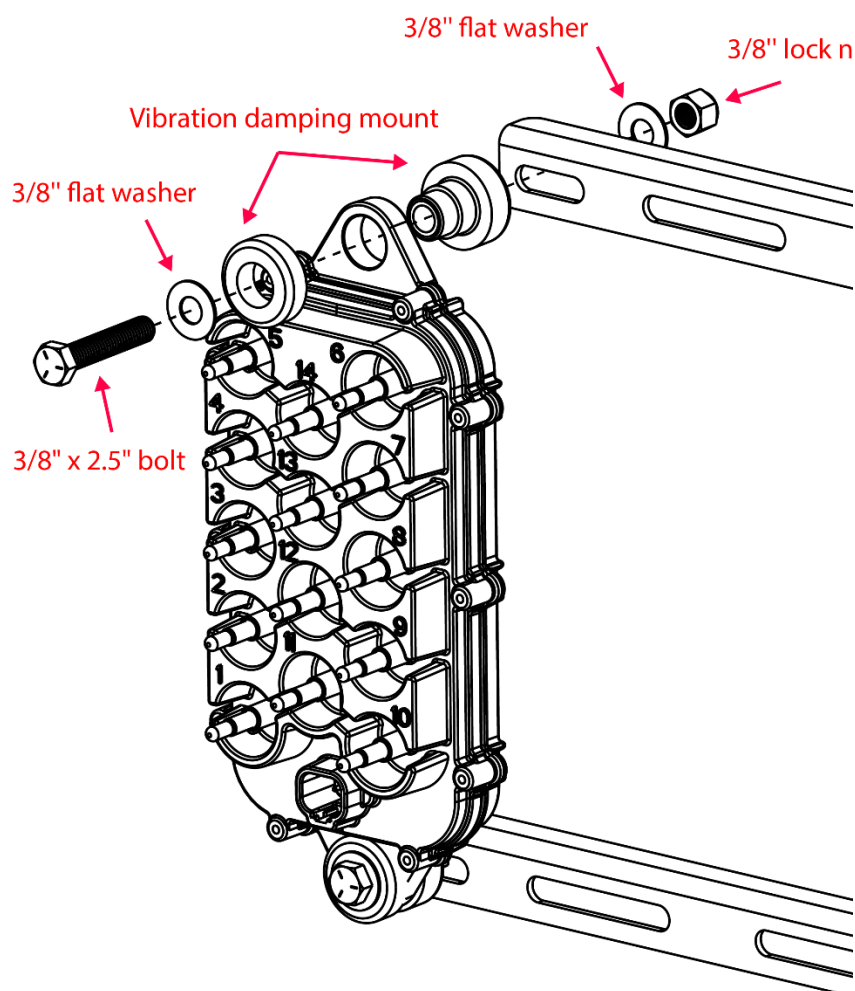

Figure 9: Securing ECU to brackets
2. Secure the top and bottom of the ECU to a bracket using a 3/8" x 2.5" bolt (356060-000237), washers (352012-000031), vibration damping mount (353070-000239), and lock nut (352011-000045) as shown in Figure 9. Hand tighten.